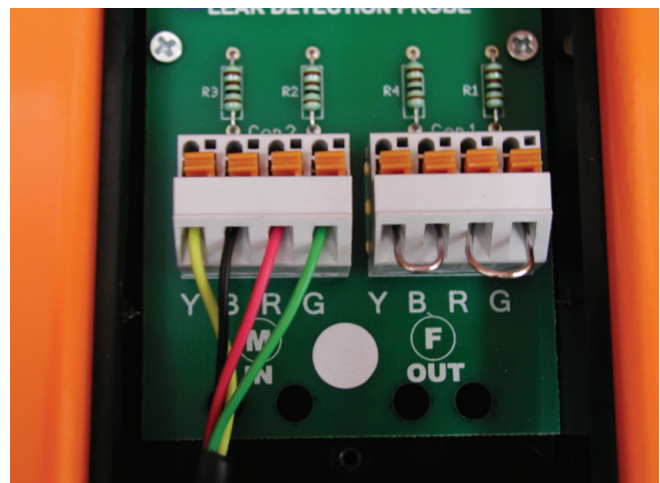
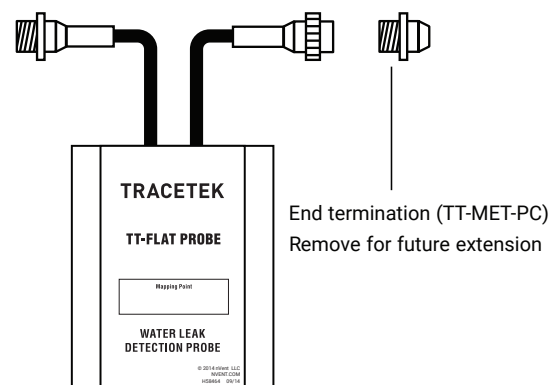

Figure 2A. Single probe wiring configuration with wire loops on terminal strip labeled OUT
Figure 2B. Single probe wiring configuration if using jumper cable and an end termination
- If the TT-FLAT PROBE is being used as a single probe (or as the last component of a larger chain), refer to Figure 2A for guidance in making proper wiring connections.
- Connect the colored wires in the jumper cable segment with the male connector end per the Yellow (Y), Black (B), Red (R), Green (G) markings next to the terminal strip labeled IN.
- Create two wire loops, and install them on the terminal strip labeled OUT per the Illustration. One loop connects Yellow (Y) and Black (B), the other Red (R) and Green (G).
**Note:** Instead of using two wire loops, a segment of modular jumper cable and an end termination (TT-MET-PC) can be used as an alternative wiring connection to the terminal strip labeled OUT. See Figure 2B. This installation method allows for future extension of the system.